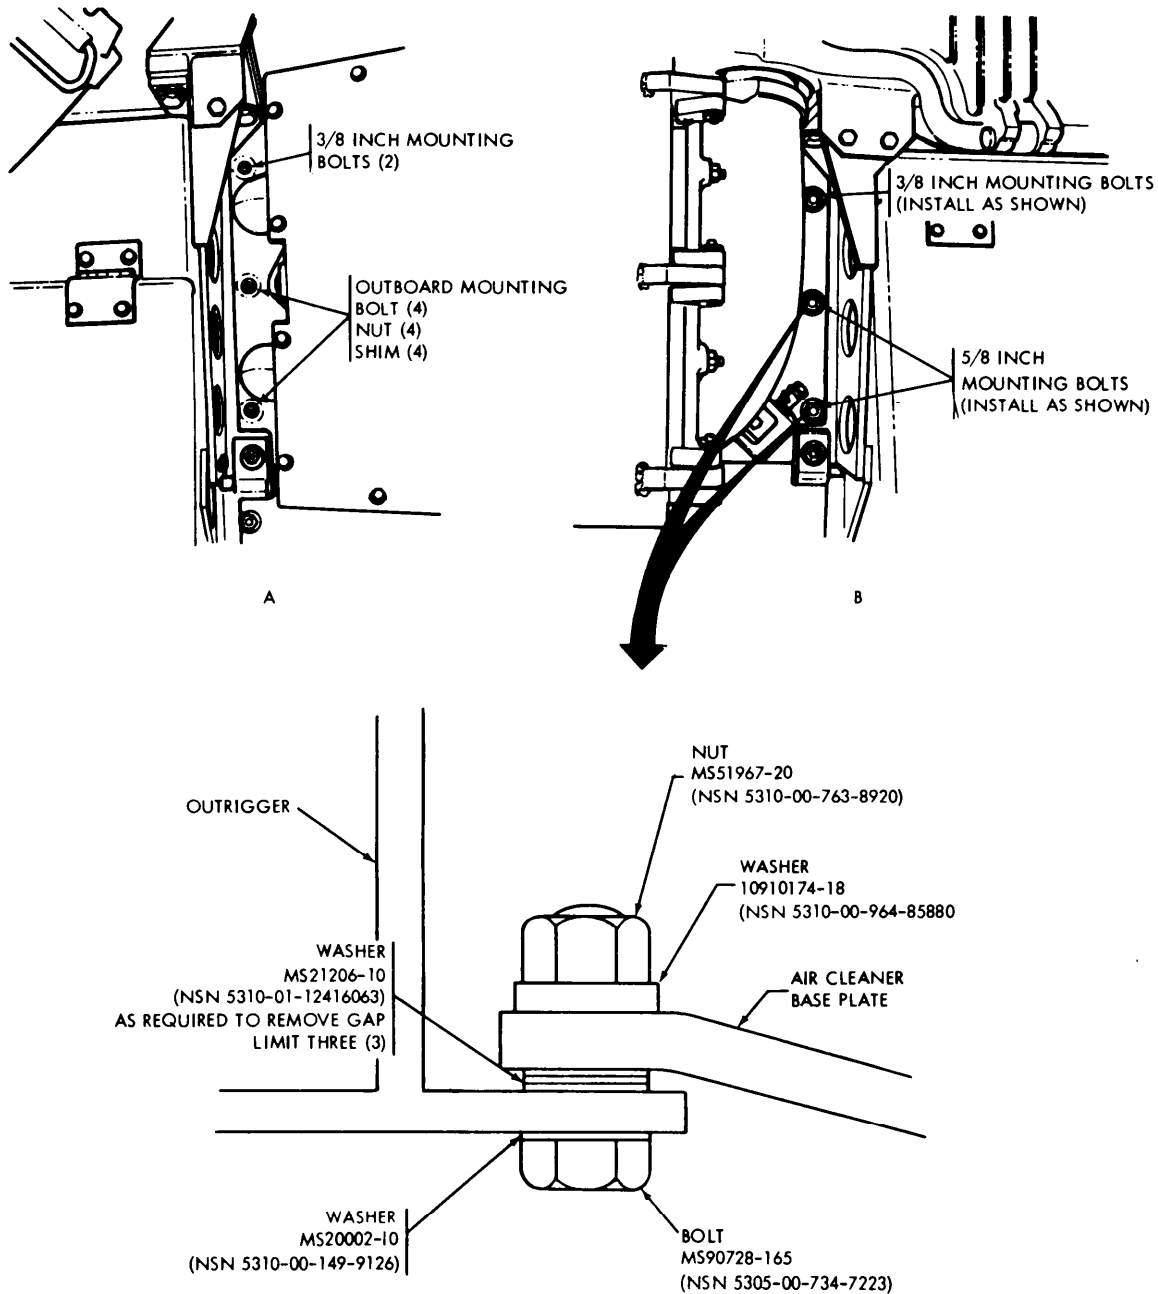

Figure 4-10. Armored air cleaner mounting bolt replacement.
b. *Replacement Procedures (Fig. 4-10).*